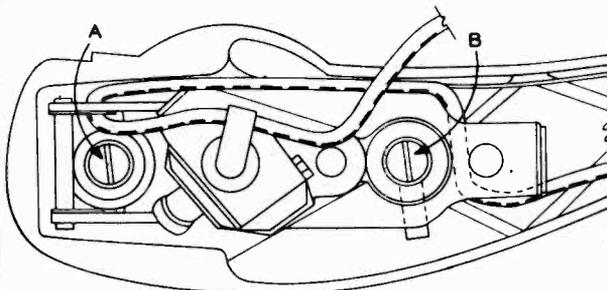

Fig. 10
**CAUTION:** Closely observe the original placement of the pickup cord and replace it in the same position. (See Fig. 10.) Do Not push hard on the needle end of the cartridge. Bending the mounting bracket will cause improper tracking or even cause both needle points to touch the record at once.
1. Remove mounting screws from mounting studs A and B, Fig. 10.